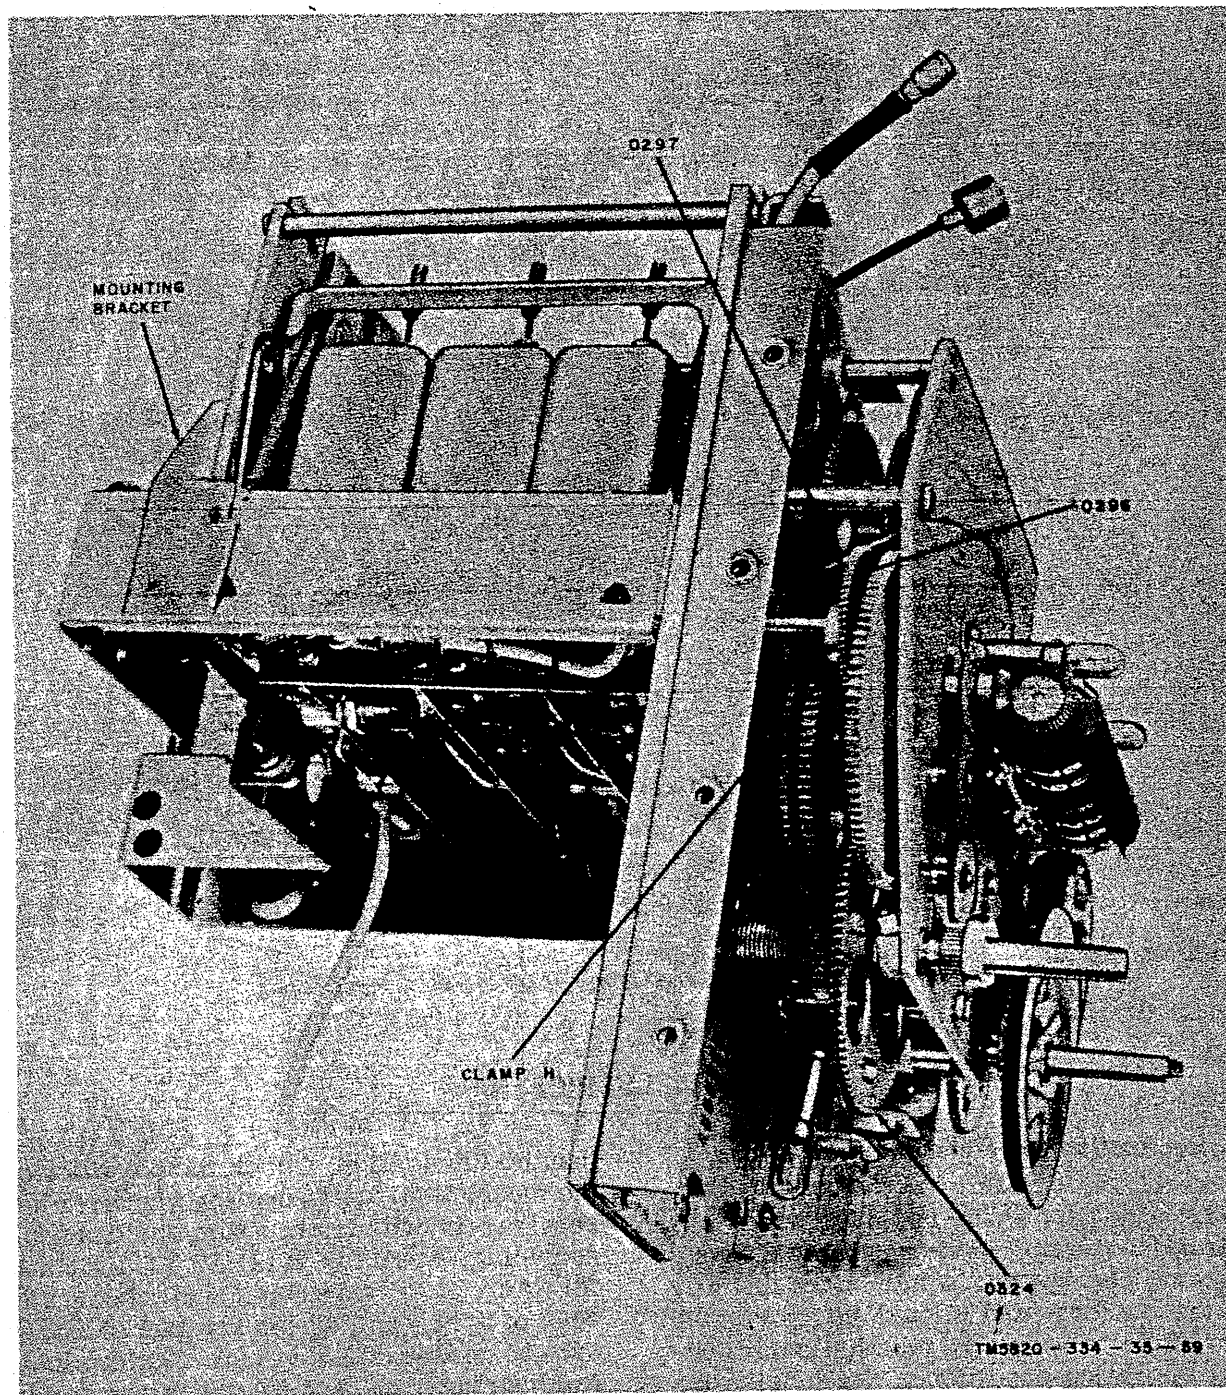

Figure 61. Gear train assembly and rf subchassis, left view.
(17) Remove the two screws from the mounting brackets on each side of the rf subchassis (fig. 61 and 62).
(3) Replace and tighten the two screws in the mounting brackets on each side of the rf subchassis (fig. 61 and 62).
k. Loosen clamp H (fig. 61). Set the small (first variable if.) can rack cam (fig. 60) so that it is almost at the top of its rise. Tighten clamp H. Check the position of the cam when the KILOCYCLES control is at the extreme clockwise position. The cam should be almost at the bottom of its rise.